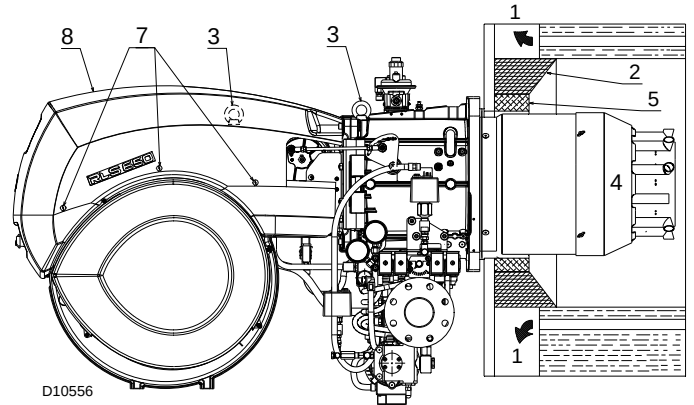

Fig. 13
For boilers with front flue passes 1)(Fig. 13) or flame inversion chambers, protective fettling in refractory material 5) must be inserted between the boiler fettling 2) and the blast tube 4).
For boilers having a water-cooled front the refractory fettling 2)-5)(Fig. 13) is not required unless it is expressly requested by the boiler manufacturer.
Prepare an adequate system of hoisting by hooking onto the rings 3)(Fig. 13).
- Slip the thermal protection (standard equipment) onto the blast tube 4)(Fig. 13).